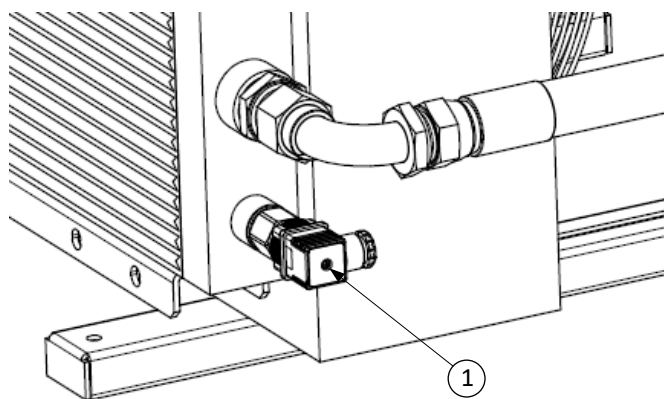

fig.11
The heat exchanger is equipped with a thermostat that is activated at 50°C and controls the fan intervention (pos.1 fig.11)